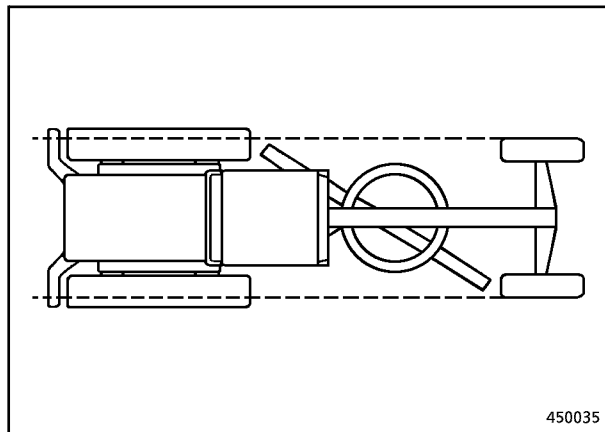
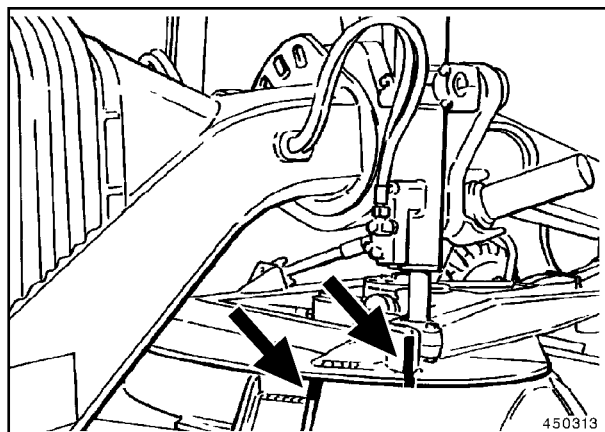

Fig. 2
Fig. 3
- Bring levelling blade into transport position (Fig. 2) by turning the blade until the markings (arrows in Fig. 3 and 4) are in alignment.